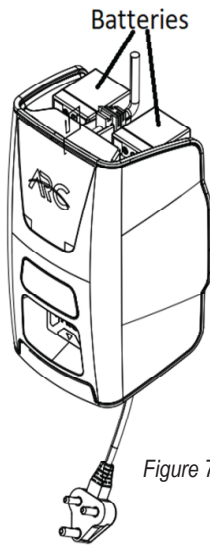

Figure 7
- Connect the batteries (See Fig 7)
- Connect the bridging cable between the 2 batteries (See Fig 7)